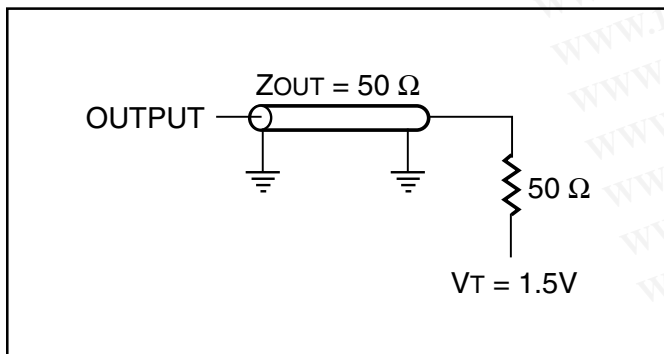

Figure 1
1. Test conditions assume signal transition times of 3 ns or less, timing reference levels of 1.5V, input pulse levels of 0 to 3.0V and C1 output loading specified in Figure 1.
2. Tested with the C2 load in Figure 1. Transition is measured ±500 mV from steady-state voltage. Not 100% tested.